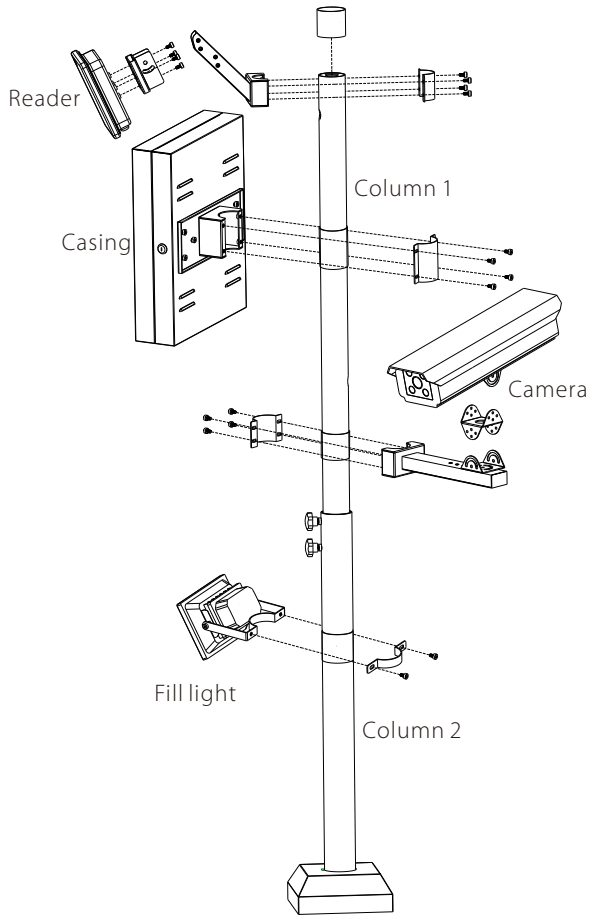

Figure 2
Step 5: Place the sponge mats on column 1, then lock the casing holder and casing support with a collet and M6 screws as shown in figure 2.